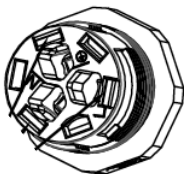

Fig. 2
- Before termination, push the buttons with a screwdriver to terminate wires (see Fig.2)
- Connect the L – Live (brown),  - Earth – (green/yellow) and N – Neutral (blue) (see Fig. 2) into the connector plug and connector socket and slide the shell over the terminations and tighten to 2.5Nm